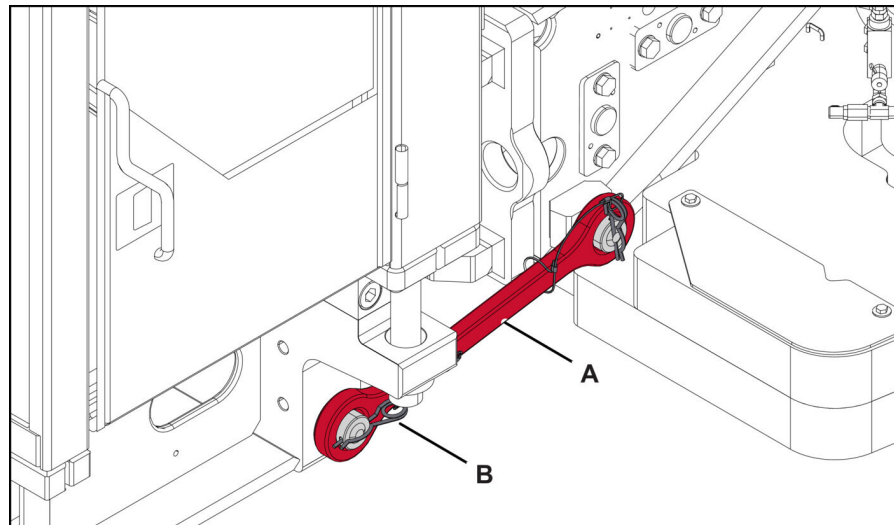

Figure 1
6. Install the articulation lock bar (Figure 1, item A) to the pins on the machine frames.